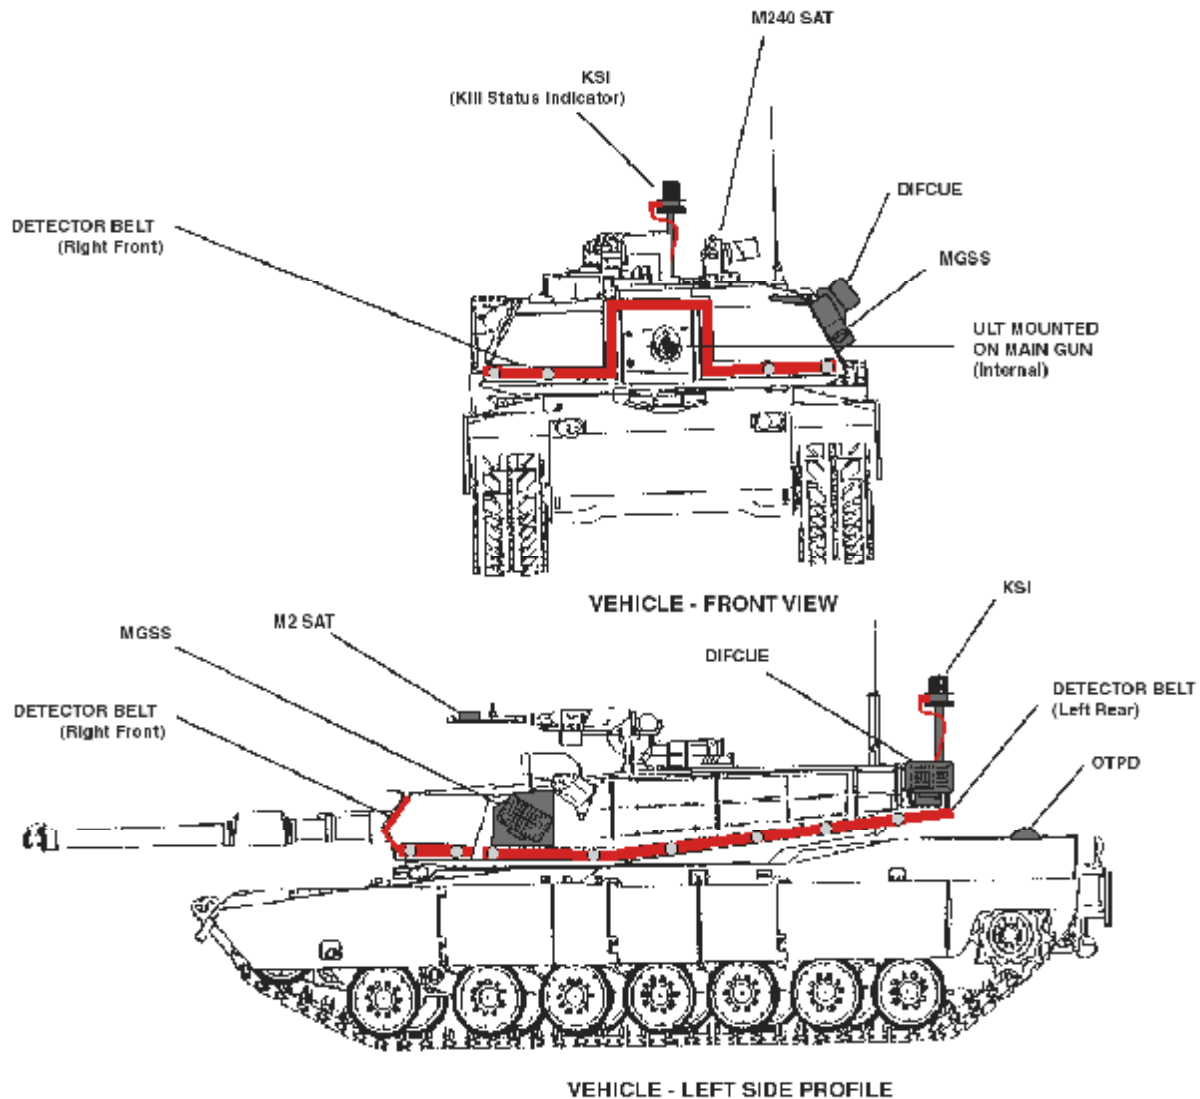

Figure 2-16. M1A1 Abrams Tank Detector Belt
2.3.2.3 Detector Belt Fastener Tape. (See Figure 2-16.)